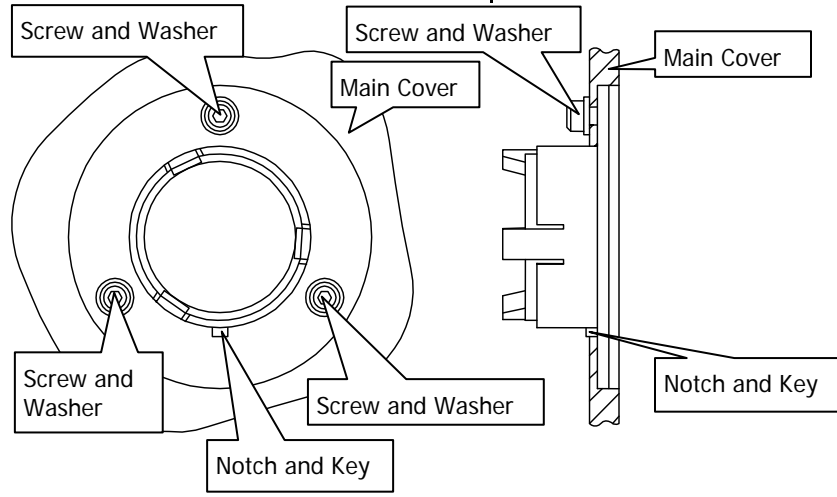

Figure 3 Window installed in main cover
7. Secure the window to the main cover by fitting the screws and washers and tightening the screws using the hexagonal wrench (Figure 3).